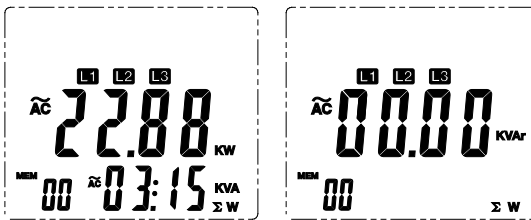

Figure 9
12. After recording the kW power measurement value for the third phase, press and Hold the Σ button for 1 second to display the 3 phase sum of **kW** on the main display and **kVA** on the secondary display. (figure 9)
9. After recording the kW power measurement value for the L3 phase, press and Hold the Σ button for 1 second to display the 3 phase sum of **kW** on the main display and **kVA** on the secondary display. (figure 9)
For Figure 9: for 3-wire $\Sigma W = W1 + W3$